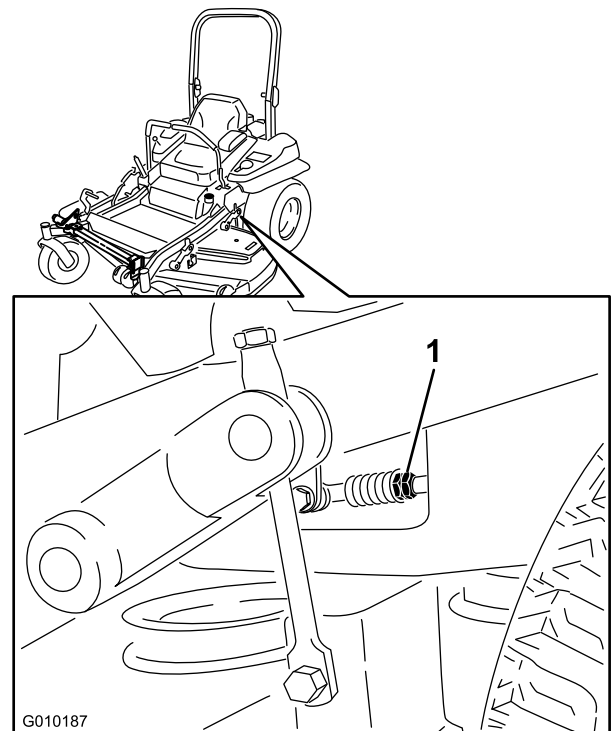

Figure 89
9. Adjust the pump control rod lengths by rotating the double nuts on the rod in the appropriate direction until the wheels slightly creep in reverse (Figure 89).